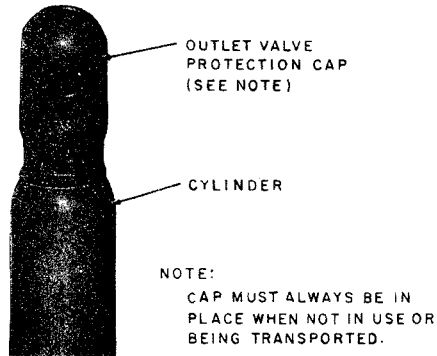

Fig. 3—Outlet Valve Protection Cap in Place
3.02 *The cap for protecting the outlet valve must always be in place when the cylinder is not in use* (Fig. 3).